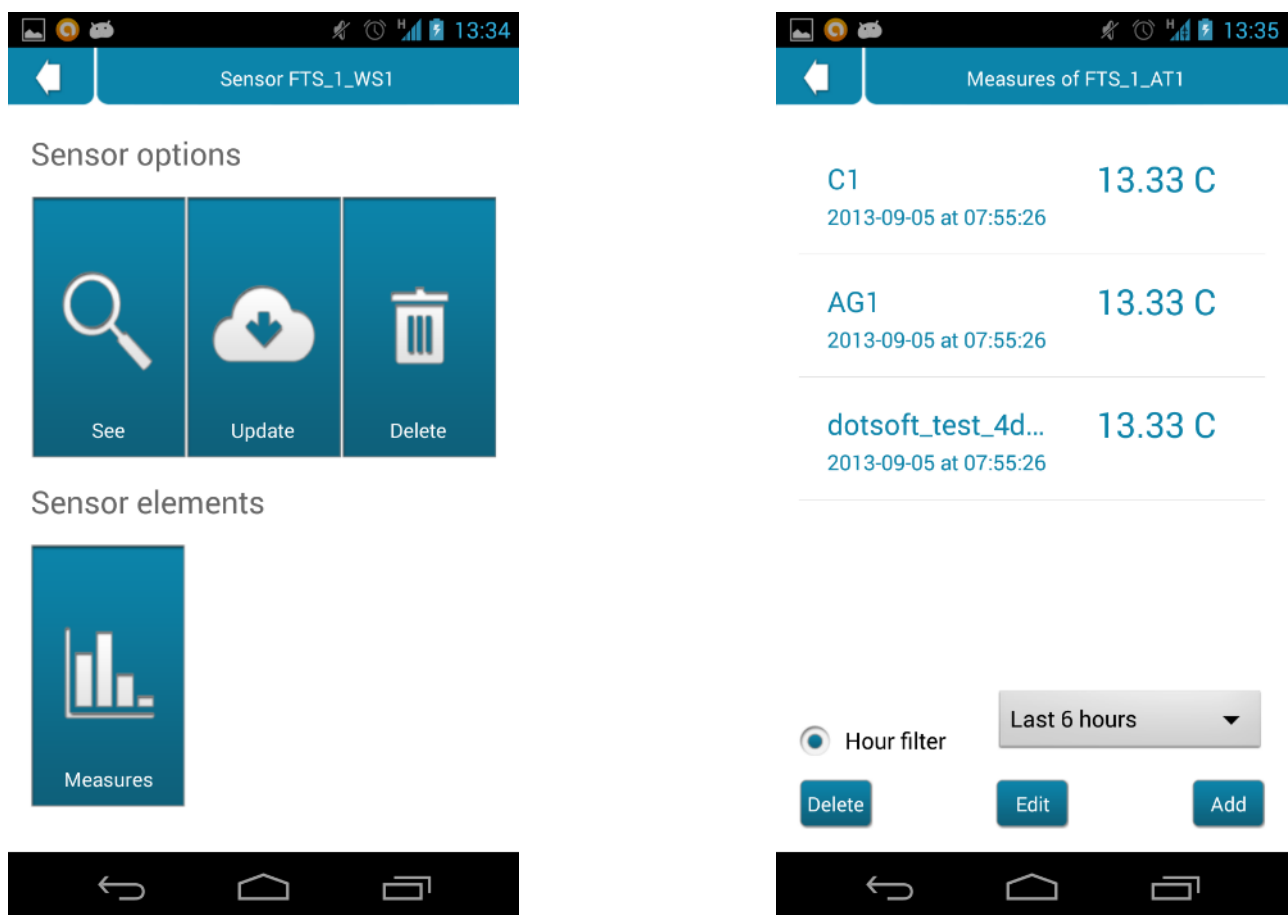

Figure 110 - Sensor Options and Measure Options screens
Clicking on one sensor, a map will show its position with a yellow marker. If the User accept the selection clicking on the "Select" button the application will show the sensor menu (Figure 110), where the User can choose between:
- Measures: Shows the measures of the selected sensor (Figure 110), these data may be filtered by hours, being 12 hours the maximum available. The measures can be deleted, modified or added as explained in section 5.12.
- One is clicking on the “Measures” button in the sensor menu (Figure 110) and on the “Data” button in the valve menu (Figure 111) to see a list of measures and values. If the User selects one of them, he has the possibility of deleting or editing it by clicking on the corresponding buttons. To create a sensor measure or a valve value manually, he must click on the “Add” button to get a blank form for adding a new one (Figure 112). Adding the date and time of the measure may be done manually or by pressing “current time” button to add automatically the current time. After inserting the value, the last step is assigning the measure or the value to a plot, selecting one of the available plots (plots belonging to the initially selected field) in the list at the lower part of the creation screen.